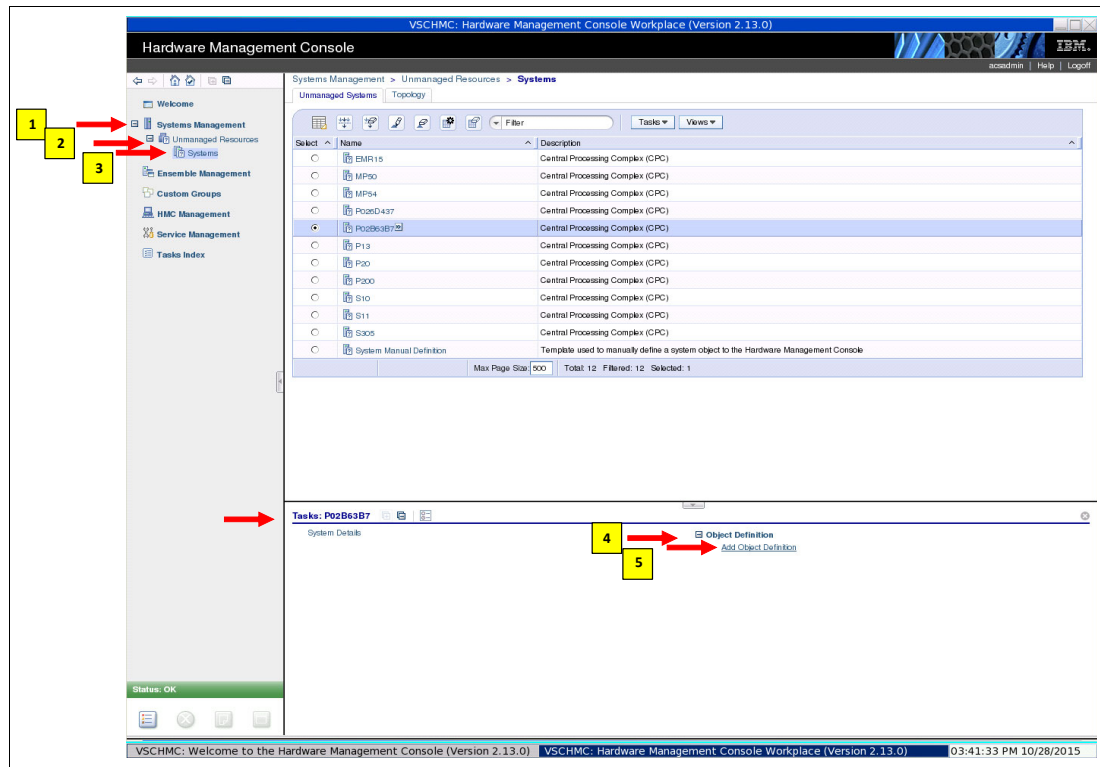

Figure 4-8 Adding CPC to HMC
5. In the Tasks tab in the bottom of the window, we select **Object definition**. Then, we select **Add Object Definition**, as shown in Figure 4-8.